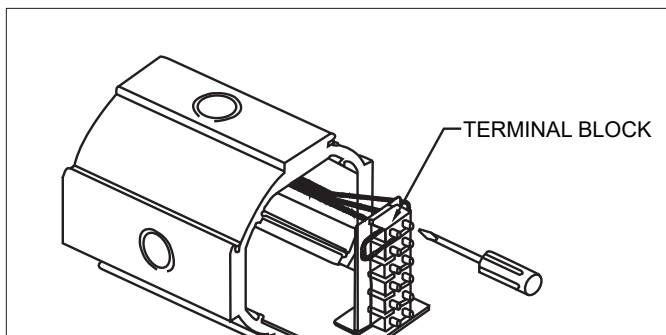

Figure 8 – Terminal Block Trolley
6. Supply wiring connections are made by accessing the over of the side mounted supply connection housing (terminal box). Slide the control trolley out of the housing just enough to access the terminal block (Figure 8, page 8).